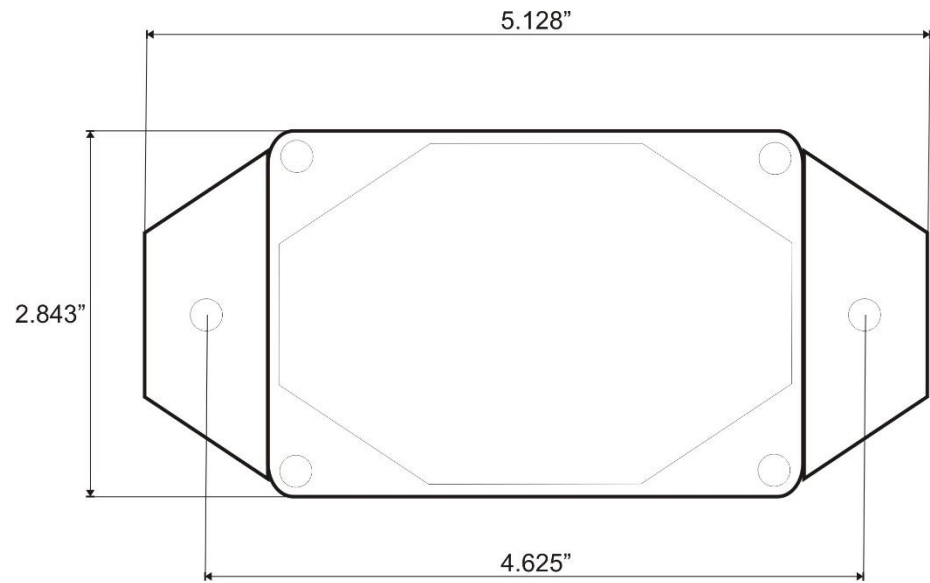

Figure A-5: External Module – Top View
* NOTE: See Figure A-5 for information about optional Internal GPS and Serial Port 3.